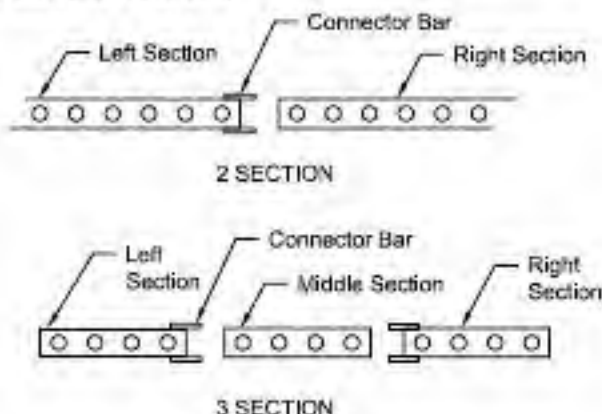

Figure 2
5. Align Left Section with Right Section by alpha-numeric code. See Fig. 2.
6. Align Right Section, Left Section, and Middle Section. See Fig. 2.